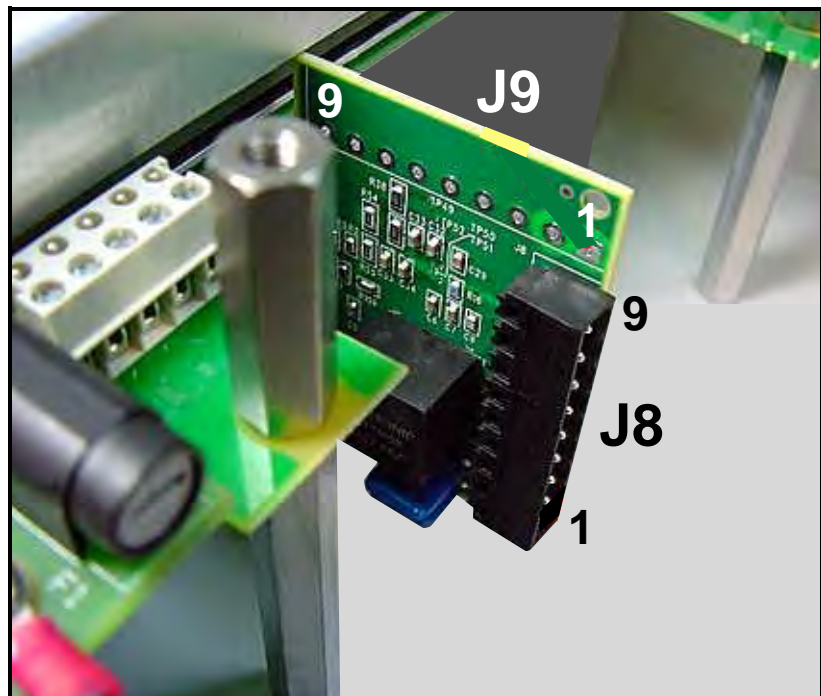

Figure 1-5: DF868 with J8 Fieldbus Connector
**Note:** Depending on the configuration of your DF868, either connector J8 or connector J9 will be available. Figure 1-5 below shows a meter with the J8 connector installed.
1. Make the Fieldbus network connections to Pins 1 and 2 of connector J8 or J9 (see Figure 1-5 below).